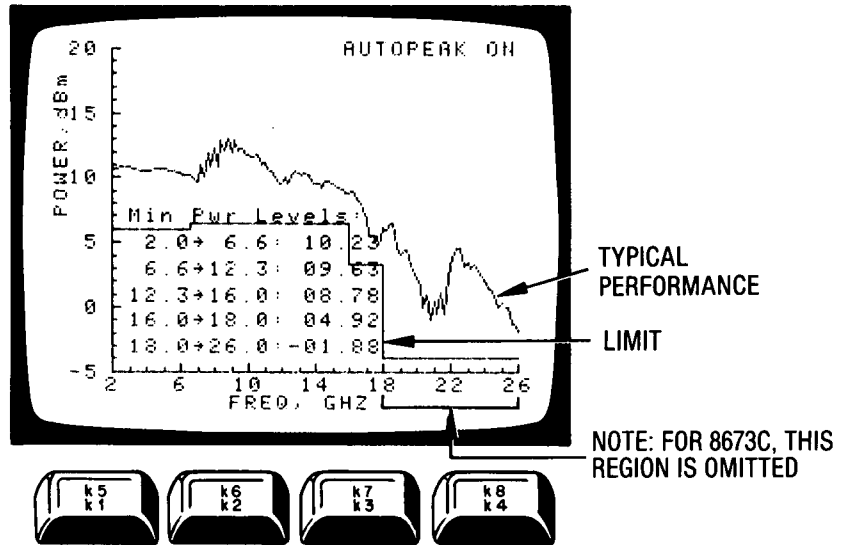

Figure 5-31. Maximum Power, Normal Mode for 8673D
22. Press K2 to run the max power test for the 8673C and K3 for 8673D. When asked the question Normal or Bypass mode, select Normal mode. This will keep the YTF switched in so that its performance will be checked with the max power test. Compare the results of the printout, as in Figure 5-31, with the typical performance limits shown in the graph.